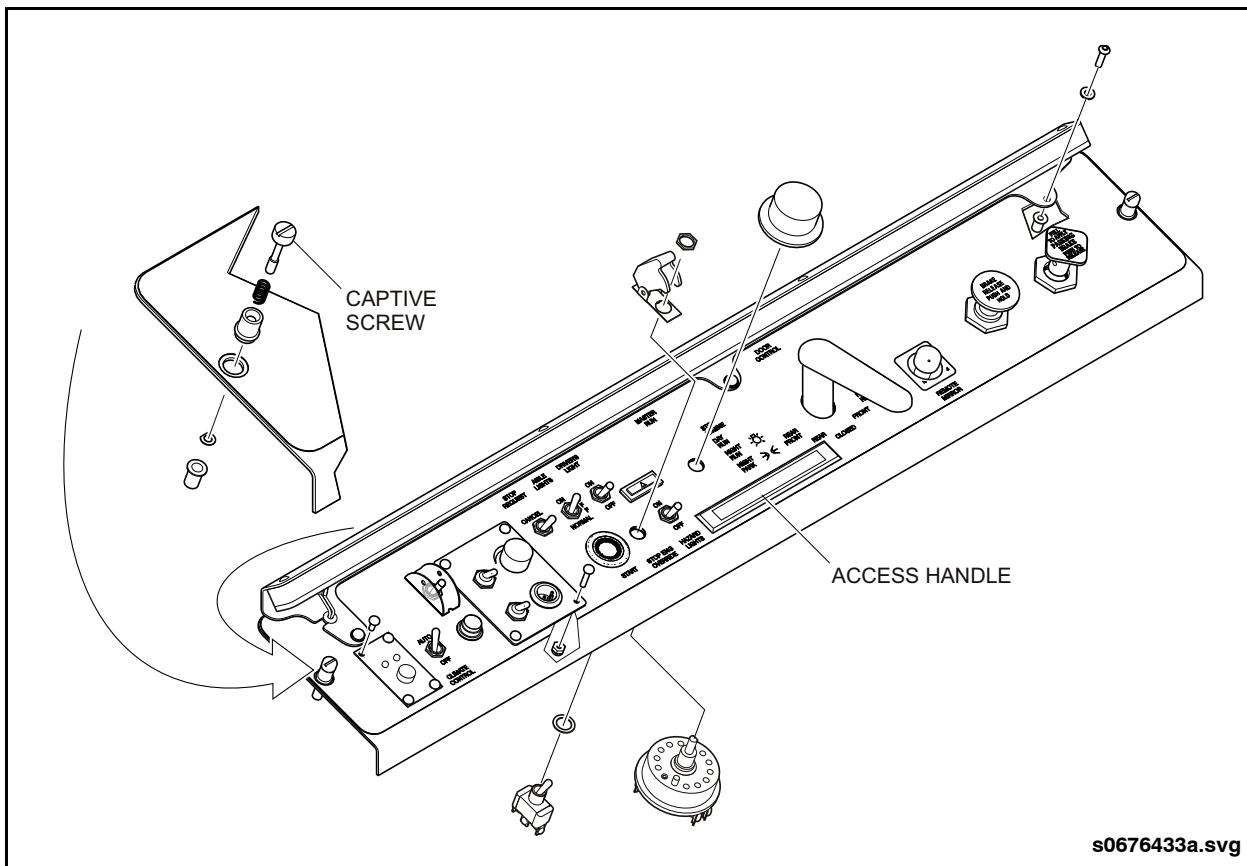

Fig. 19-15: Side Console Repair
2. Loosen the captive screws at either end of the side console. Pull on the access handle and raise the console. See "Fig. 19-15: Side Console Repair" on page 31.